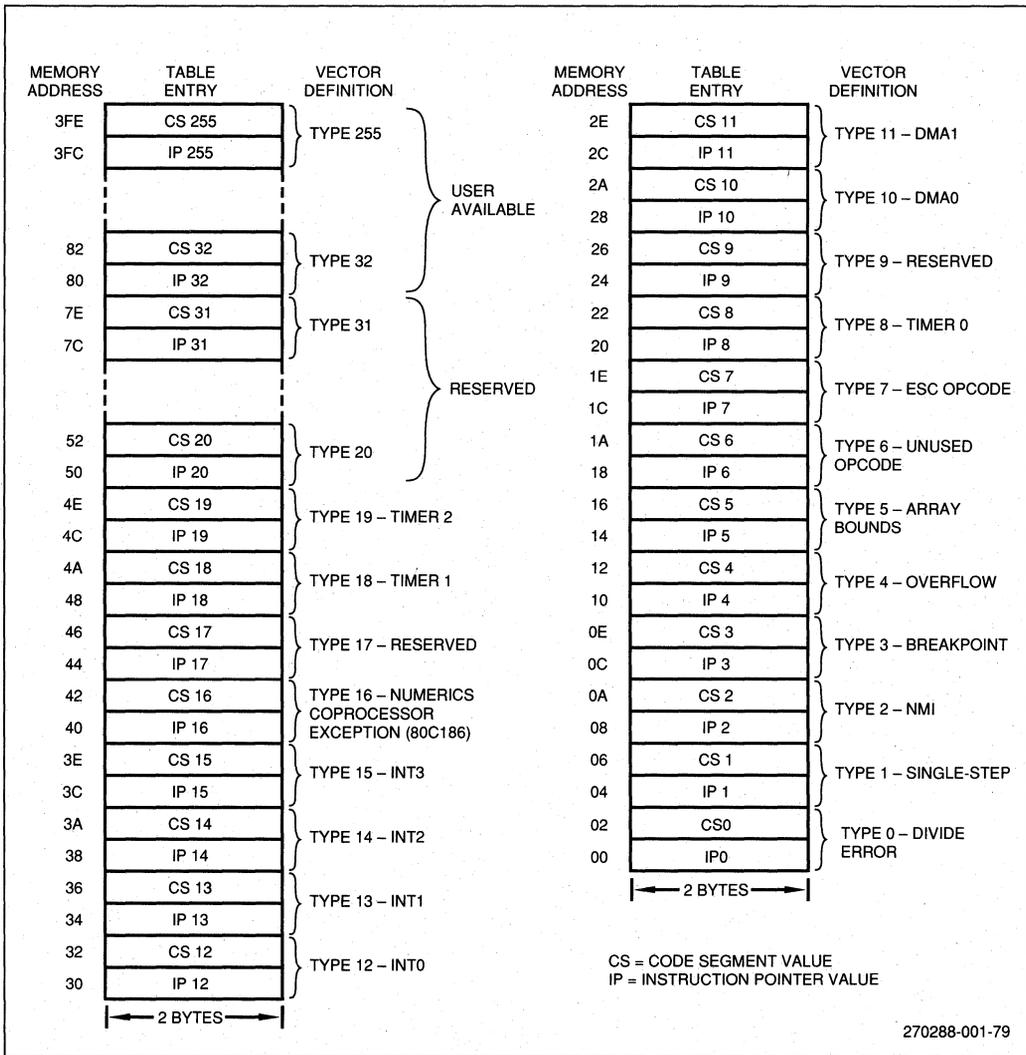

Figure 74. Interrupt Vector Table
All interrupts, whether software- or hardware-initiated, result in the transfer of control to a new program location. A 256-entry vector table (see Figure 74), which contains address pointers to the interrupt routines, resides in memory locations 0 through 3FFH. Each entry in this table consists of two 16-bit address values (four bytes) that are loaded into the code segment (CS) and the instruction pointer (IP) registers when an interrupt is accepted.